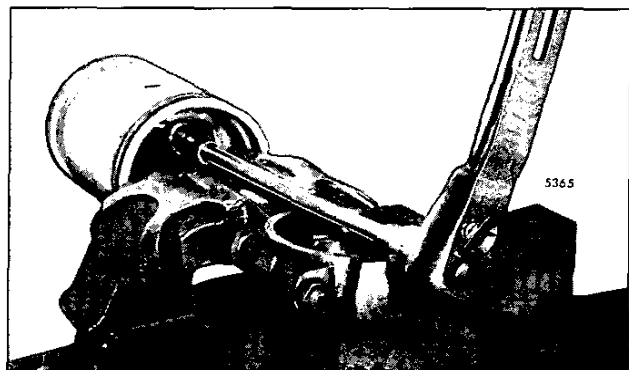

Fig. 15 - Tightening Connecting Rod to Piston Pin Bolts
8. Install and tighten the bolts finger tight. Then, clamp the connecting rod in a vise and tighten the bolts to 30-35 lb-ft (41-47 N·m) torque (Fig. 15). Do not exceed this torque.